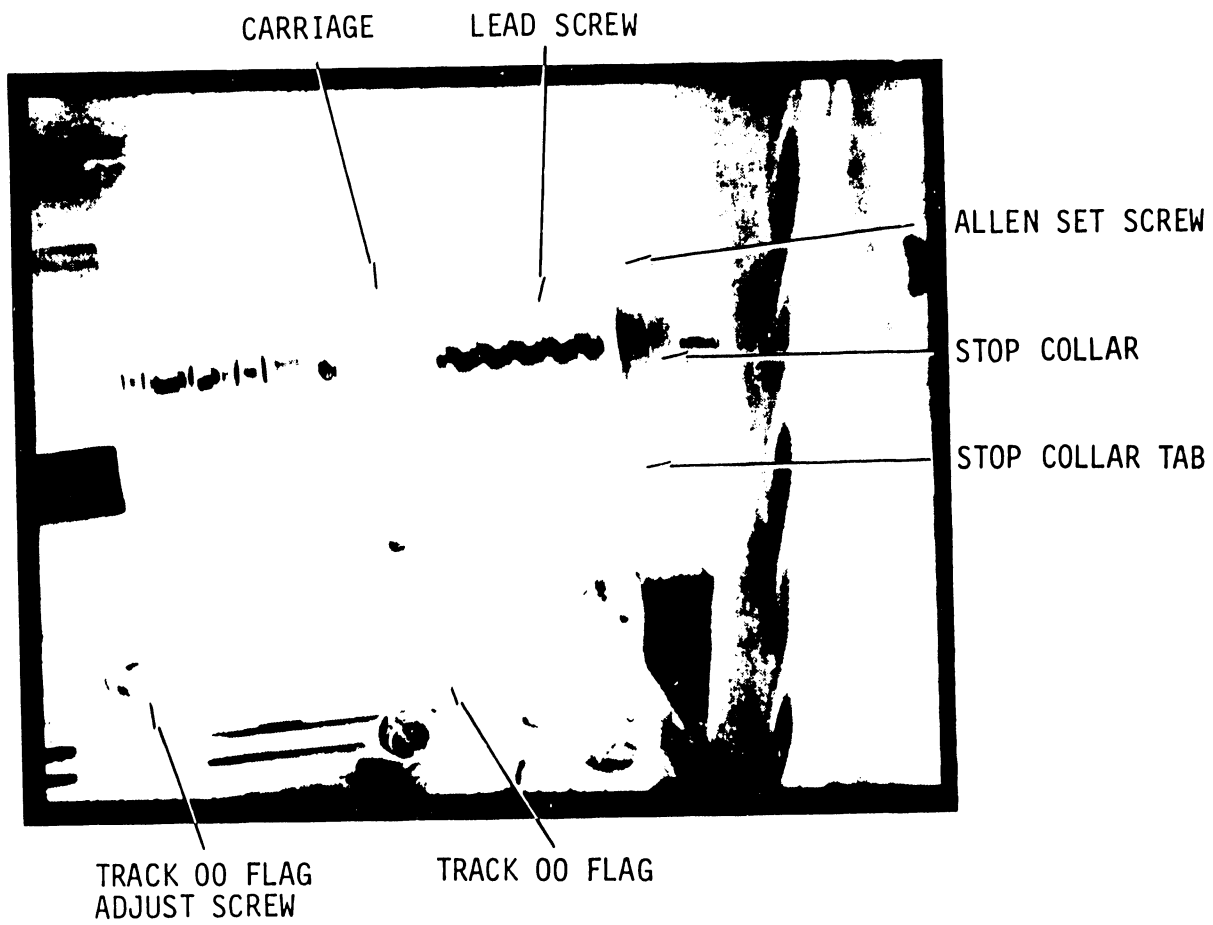

Figure 8 Track 00 Flag Screw
c. Manually turn the stepping motor lead screw slowly to track 01 as shown in Figure 8.